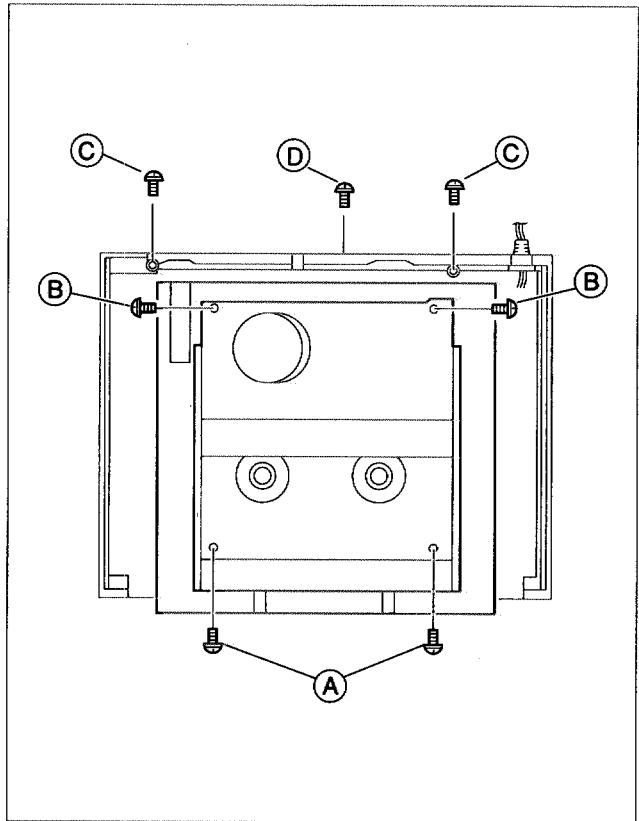

Fig. 1-4-1
- (1) Remove the Top cover, Bracket, Front panel assembly. (Refer to page 1-2 of 1.3 DISASSEMBLY/ASSEMBLY METHOD.)
- (2) Lower the cassette holder, and make the preparations required in order to remove the screws from the Mechanism assembly. (Refer to the "Procedures for Lowering the Cassette holder assembly" on pages 1-3 of 1.3 DISASSEMBLY/ASSEMBLY METHOD.)
- (3) Take out 2 screws (A) and 2 screws (B) as shown in Fig. 1-4-1.
- (4) Remove the flat wires from CN3011 and CN7504 on the Main board assembly.
- (5) Take out 2 screws (C) and 1 screw (D) as shown in Fig. 1-4-1.